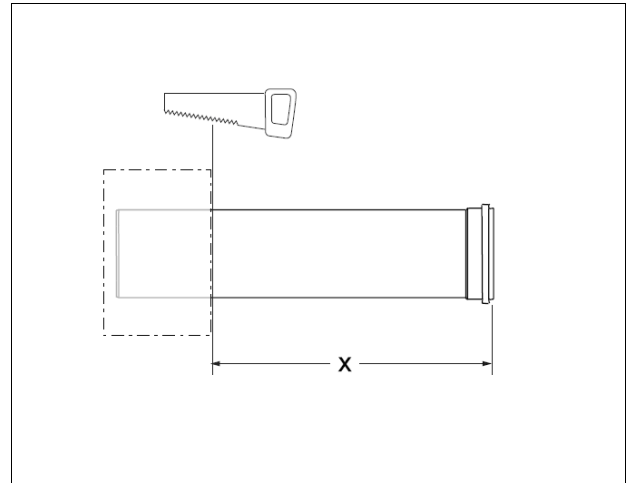

Fig. 4 Cutting the concentric pipe
- Coat the gaskets (Fig. 4, Item 1) with CENTROCERIN® anti-seizing compound.
- Push the flue gas pipes into one another (Fig. 4, Item 2) with a slight turning motion until the stop.
With concentric pipes, push the air intake pipe (outer pipe, Fig. 4, Item 3) together to ensure a tight fit.